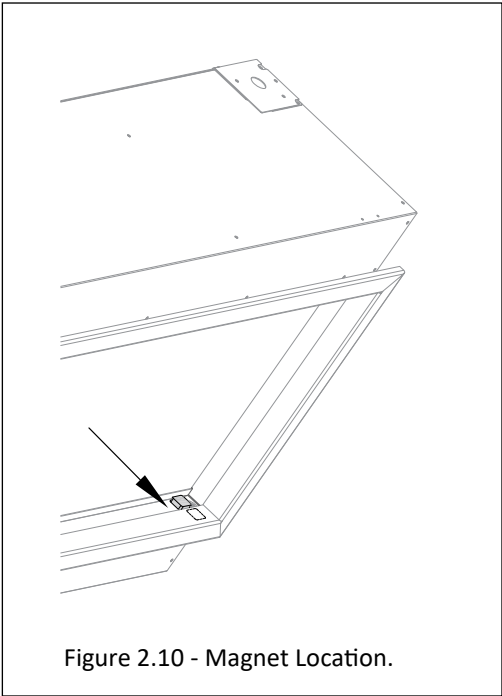

Figure 2.10 - Magnet Location.
5. Use the provided magnets to hold the bottom of the surround to the fireplace as shown in Figure 2.10. The magnets will sit on the bottom edge of the fireplace and should be hidden by the bottom flange of the surround.